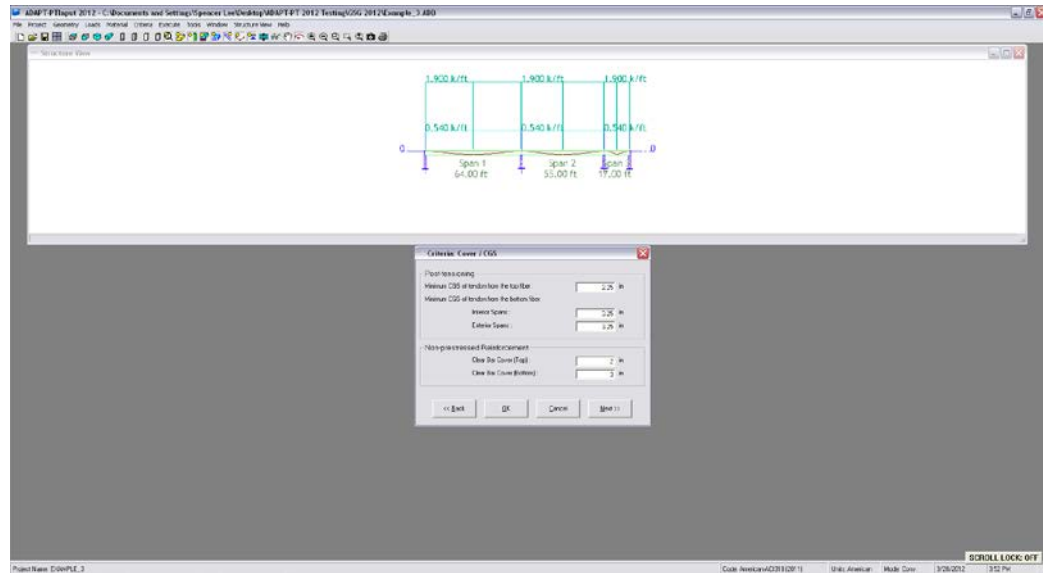

FIGURE 4.2-18
4.2.5.5 Specify Minimum Covers For Post-Tensioning Tendons And Mild Steel Reinforcement (Fig. 4.2-18)